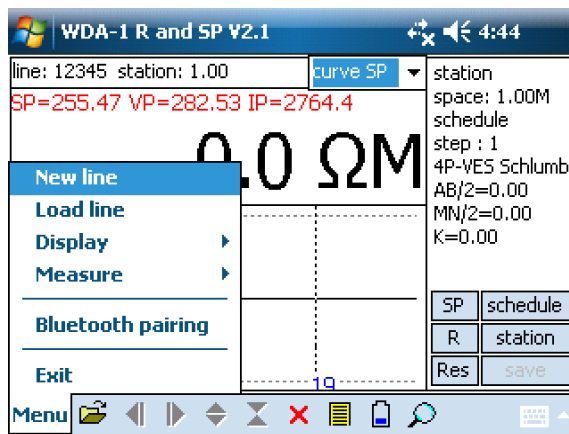
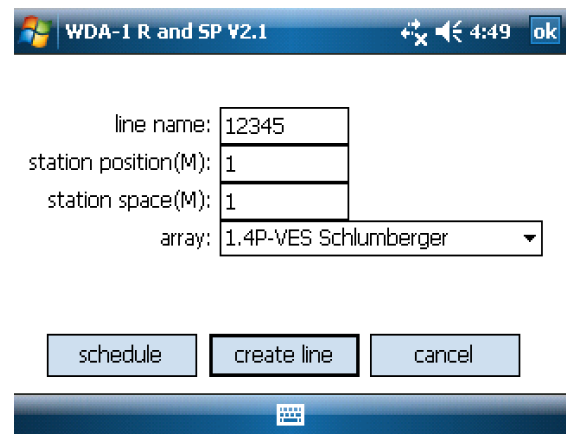

Fig. 3-6
Fig. 3-7
Under Program Main Interface (Fig. 3-6), click “Menu” → “New line” to set parameters (Fig.3-7).
- 1) Under Program Main Interface or under Fig. 3-7, click “Schedule” button to enter into Schedule interface (Fig. 3-9) to set interval relations among the electrodes. Electrode intervals of each electrode array configuration are